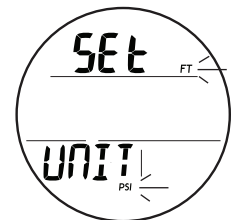

Fig. 60 - SET UNITS
**Set Units**, information includes (Fig. 60):